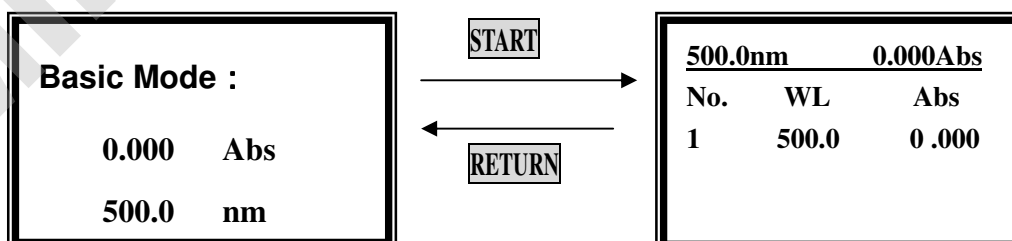

Fig. 5
- ✧ Press **[ENTER]** to change the wavelength, and then blank; After blanking, the screen displays as the left one of Fig 5.
- ✧ Press **【START/STOP】** in the left one of Fig. 5 to go into testing interface.(The right one of Fig 5)
- ✧ Press **【START/STOP】** again in the right one of Fig. 5, the testing result displays on the screen, repeat this step, the results will display on the screen one by one.
**Print test report** (For example: Print the report in “Basic mode”, the right one of Fig. 5)
- ✧ Press **【PRINT】** in the right one of Fig.5 to print the report (Fig. 6)